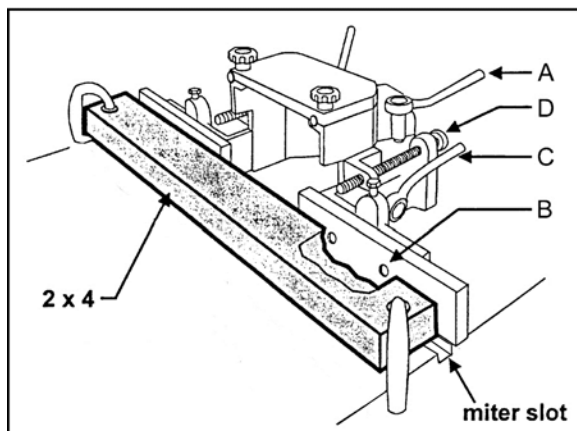

Figure 6
Refer to Figure 6.
1. Check the two ratcheting handles (A, Figure 6) holding the fence assembly to the table and make sure they are tight.
2. Check the four countersink flat head screws (B, Figure 6) that secure the wooden fences and make sure they are tight.
3. Take a 2x4 with a jointed edge and clamp it to the shaper table making sure the jointed edge is absolutely on line with the miter groove and close to the fence as shown in Figure 6.
4. Loosen the two lock handles (C, Figure 6) and turn the fence adjustment knobs (D, Figure 6) to move both fences against the jointed edge of the 2x4. After this adjustment the fences should make flush contact with the jointed edge and square with the table.